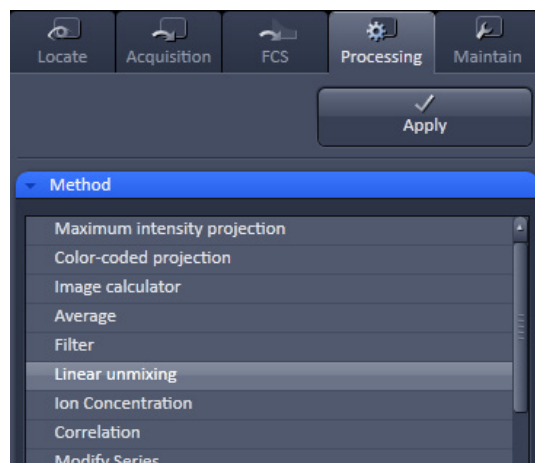

Fig. 121 Linear Unmixing in the Processing tab
- To open the **Linear unmixing** tool, click on **Linear unmixing** in the **Processing** tool list in the Processing tab (Fig. 121).